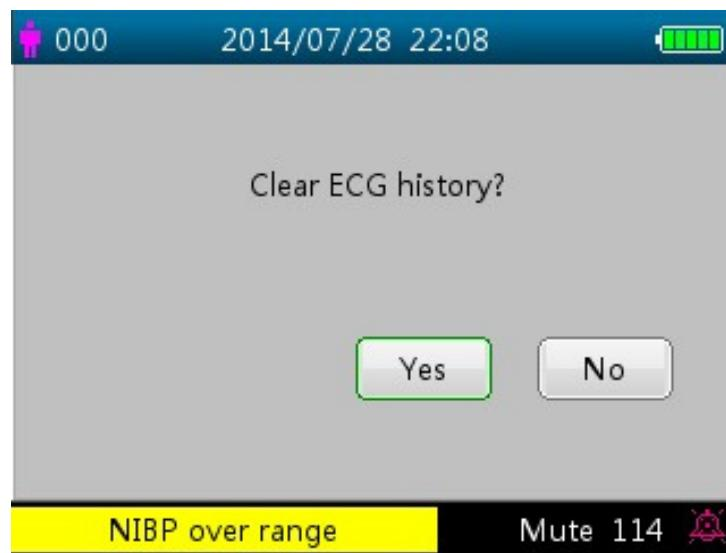

Figure 4.5 Delete ECG history
- ☒ Long pressing OK key, then a dialog of deleting records pops up, as shown in figure 4.5, the user can delete all history ECG waveform data according to prompt.